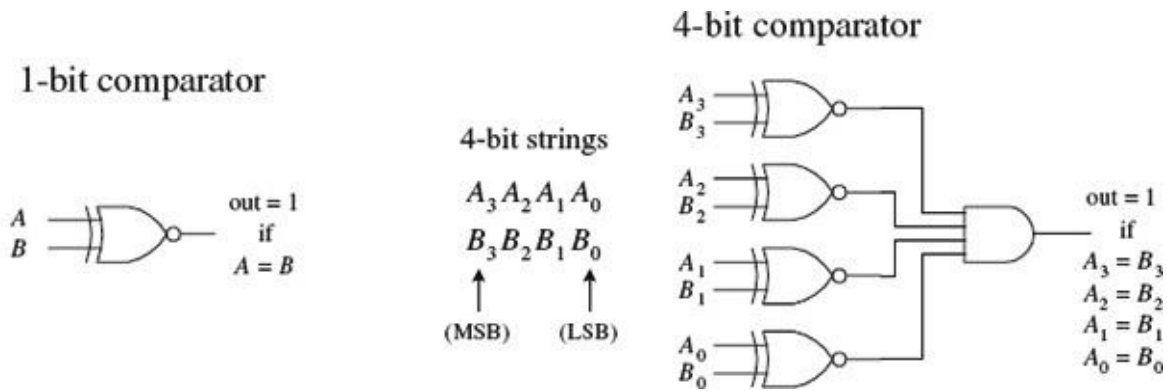
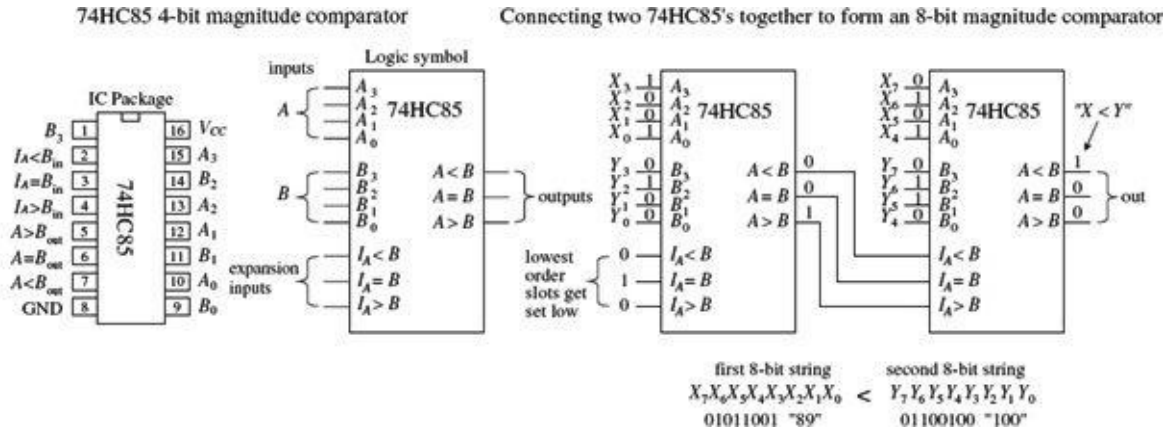

FIGURE 12.49
FIGURE 12.50
A digital comparator is a circuit that accepts two binary numbers and determines whether the two numbers are equal. For example, Fig. 12.49 shows a 1-bit and a 4-bit comparator. The 1-bit comparator outputs a high (1) only when the two 1-bit numbers A and B are equal. If A is not equal to B , then the output goes low (0). The 4-bit is basically four 1-bit comparators in one. When all individual digits of each number are equal, all XOR gates output a high, which in turn enables the AND gate, making the output high. If any two corresponding digits of the two numbers are not equal, the output goes low.
Now, say you want to know which number, A or B , is larger. The circuits in Fig. 12.49 will not do the trick. What you need instead is a magnitude comparator like the 74HC85 shown in Fig. 12.50. This device not only tells you if two numbers are equal, but also which number is larger. For example, if
you apply a 1001 (9_{10}) to the $A_3A_2A_1A_0$ inputs and a second number 1100 (12_{10}) to the $B_3B_2B_1B_0$ inputs, the $A < B$ output will go high (the other two outputs, $A > B$ and $A = B$, will remain low). If A and B were equal, the $A = B$ output would have gone high, and so on. If you wanted to compare larger numbers—say, two 8-bit numbers—you simply cascade two 74HC85 comparators together, as shown on the right side of Fig. 12.50. The leftmost 74HC85 compares the lower-order bits, while the rightmost 74HC85 compares the higher-order bits. To link the two devices together, you connect the output of the lower-order device to the expansion inputs of the higher-order device, as shown. The lower-order device's expansion inputs are always set low ($I_A < B$), high ($I_A = B$), and low ($I_A > B$).